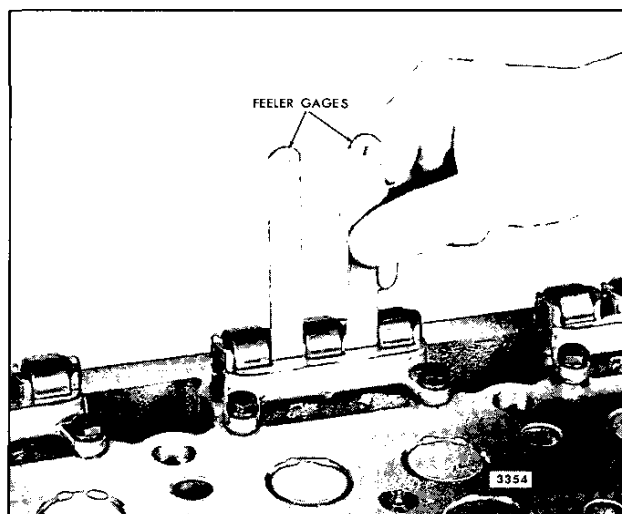
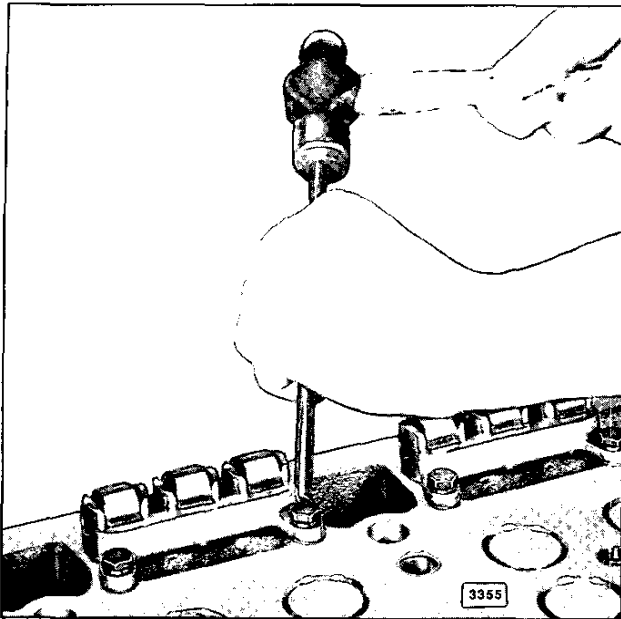

Fig. 10 – Checking Cam Follower to Guide Clearance
Fig. 11 – Adjusting Cam Follower Guide
4. Attach the follower guide to the cylinder head to hold the group of three cam followers in place. Tighten the guide bolts to 12–15 lb–ft (16–20 N·m) torque. Check to be sure there is at least .005" clearance between the cam follower legs and the cam follower guide (Fig. 10). If there is insufficient clearance, loosen the guide bolts slightly and tap each corner of the guide with a brass rod (Fig. 11). Then, retighten the bolts to the specified torque.